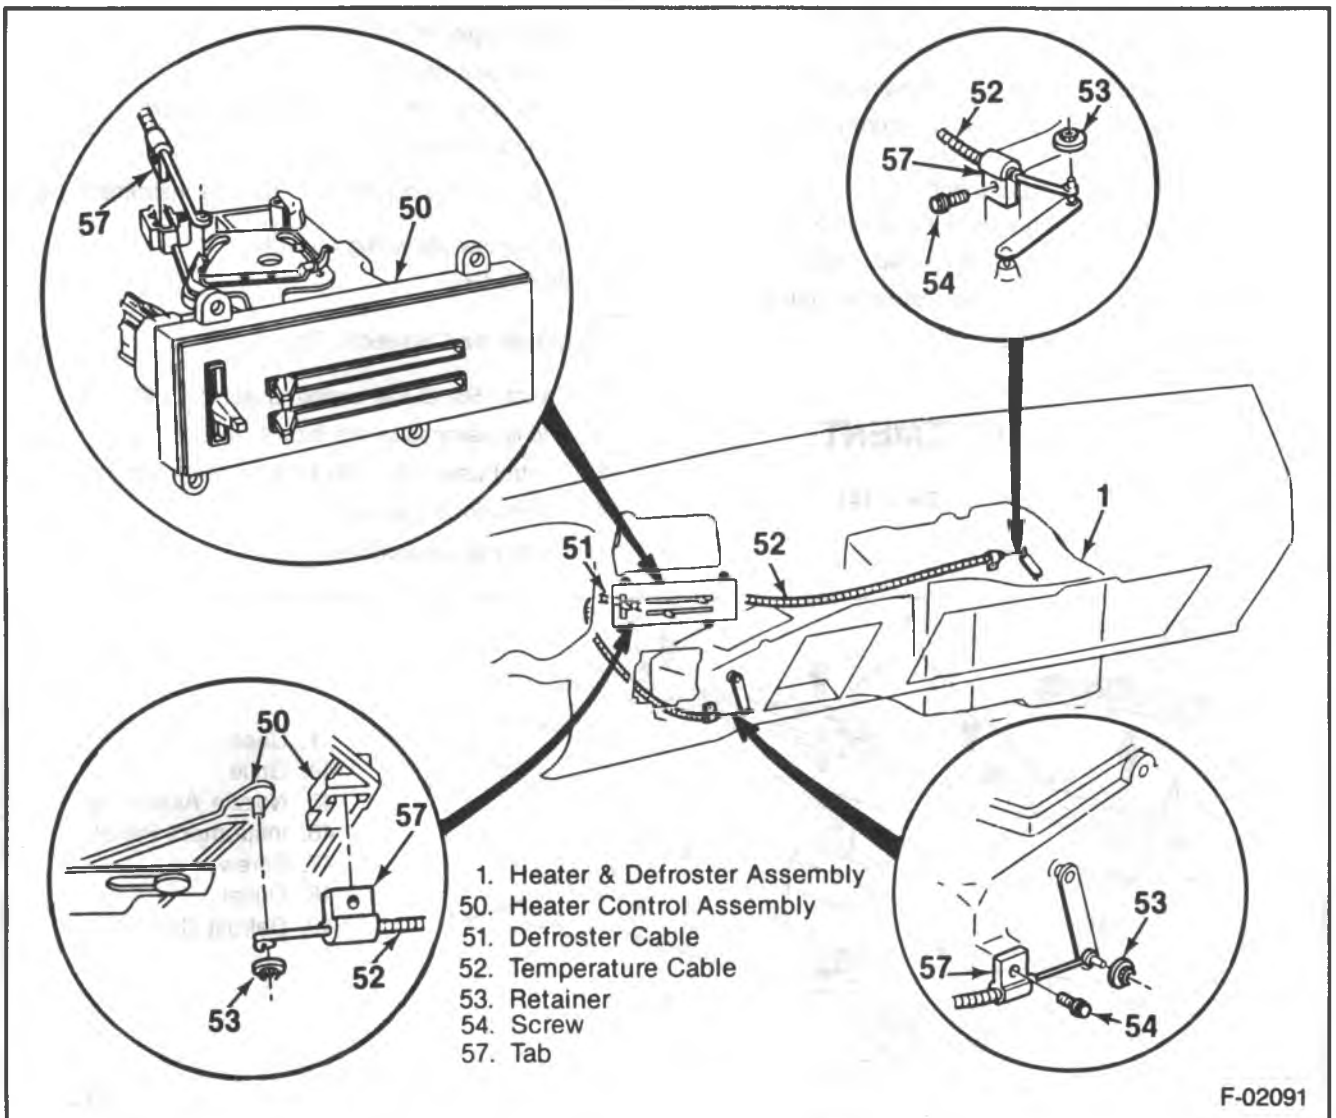

Figure 12 — Control Assembly and Cables
5. Defroster (51) and temperature cables (52) (figure 12).
6. Floor outlet (37).
Remove or Disconnect (Figure 12)
Install or Connect (Figure 12)
↔ Remove or Disconnect (Figure 12)
↔ Install or Connect (Figure 12)